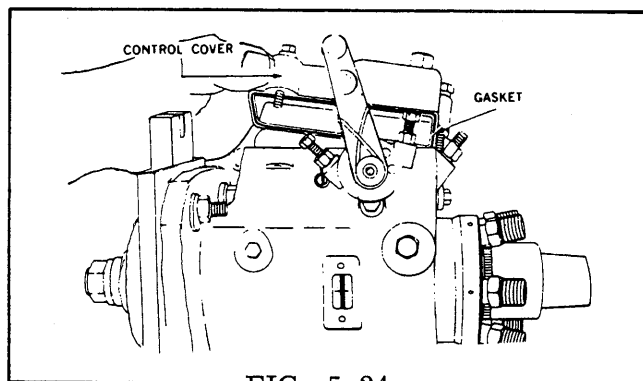

FIG. 5.24
STEP 24 Assemble a new gasket to governor control cover and install cover on pump. Slip the flat washers and lock washers onto cover screws and tighten securely (Fig. 5.24).